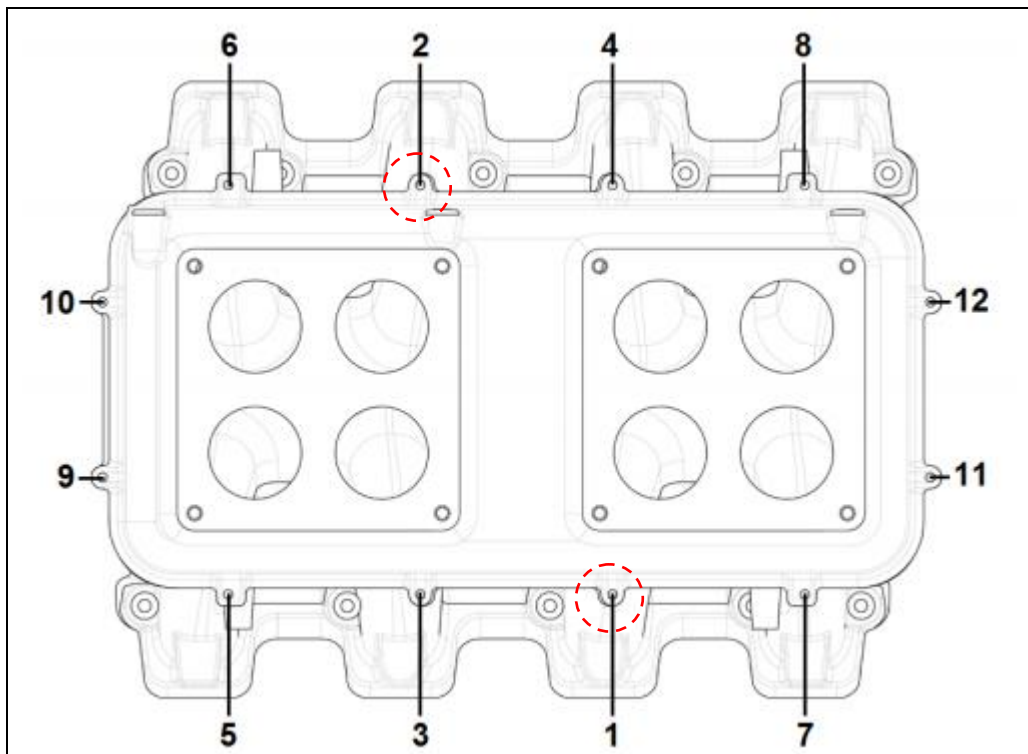

Figure 9 – Manifold Top Tightening Sequence
7. Install the hardware provided with the NOS Hi-Ram Nitrous Plate Kit; anti-seize should be applied to the threads. Gently tighten the nuts working side to side and out from center (see the tightening sequence diagram in Figure 9), until manifold is seated on the mounting flanges and the O-ring has been compressed. In two steps, tighten the mounting nuts first to 50 in-lbs and then to 106 in-lbs. **NOTE: There are 2 longer bolts included in your kit those will be used to hold the solenoid brackets in place and the location of those bolts is highlighted in figure 9.**